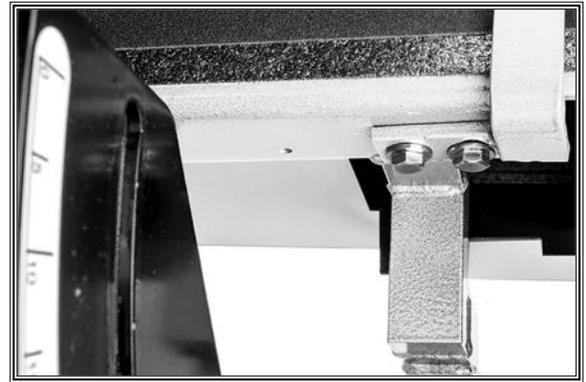

Figure 8. Backstop installed.
10. Slide back stop onto hex bolts and tighten, allowing 1/8" clearance from belt to bottom of the backstop, as shown in **Figure 8**.